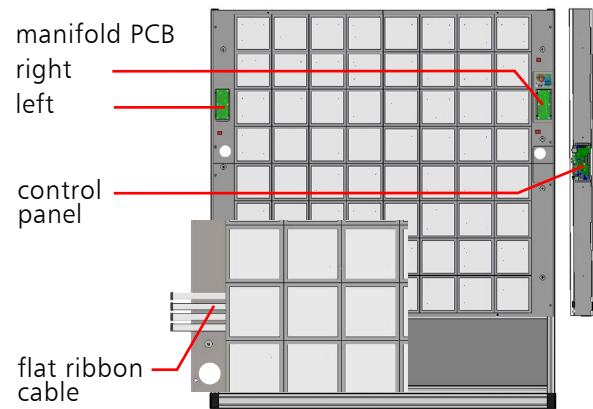
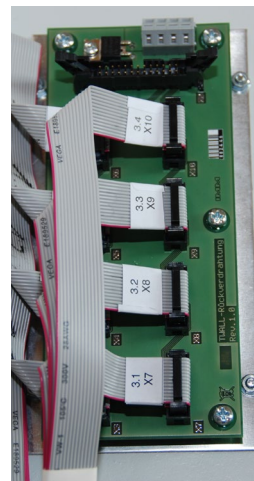

fig. 3.1-31
fig. 3.1-32
Step 24 You can find four (4) **14-stranded** flat ribbon cables at each basic module to connect them to the manifold PCBs (**fig. 3.1-32 and 3.1-33**). The cables are marked as 0.1 - 0.4, 1.1 - 1.4, 2.1 - 2.4 and 3.1 - 3.4 as well as the appropriate plug number. Now put the flat ribbon cables on the manifold PCBs. The PCB for the two (2) right upper basic modules can be found at the right upper basic module, the PCB for the two (2) left upper basic modules are located at the left upper basic module (**fig. 3.1-31**).